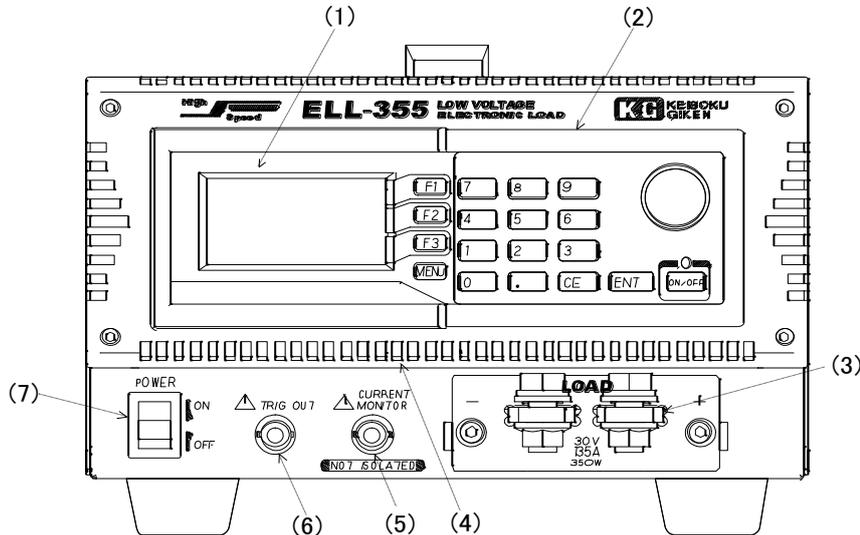

Fig. 3-1-1 Front Panel
INT Fig. 3-1-1 Select the voltage being applied to front panel (3)